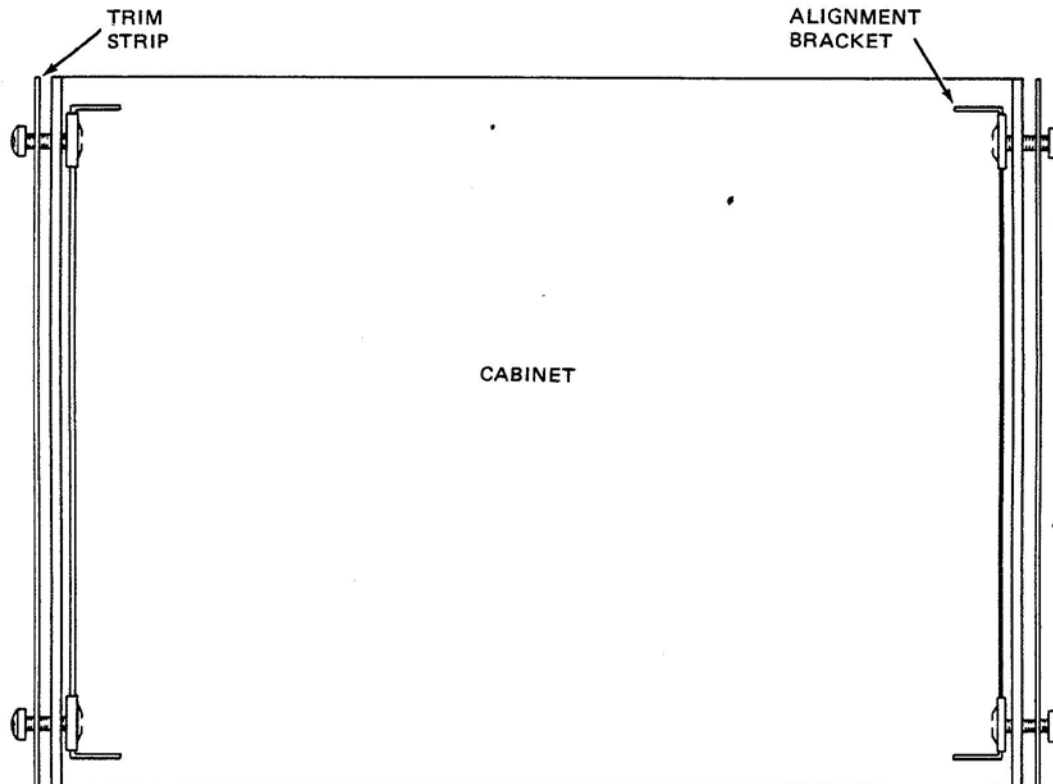

Fig. 14. Mounting the trim strips and the alignment brackets on the cabinet bottom.
(3) Next, locate two of the black Phillips head 8-32 screws. Put the screws through the two holes on one side of the black trim strip, and through the holes in the cabinet half on which you mounted the feet. Then screw them into the Tinnerman nuts on the cabinet aligning brackets as shown in Fig. 14. Do *not* tighten the screws. Do the same thing with the second cabinet trim strip and alignment bracket on the other side of the cabinet bottom
(4) Now carefully lift the power supply and lower it inside the cabinet bottom so that the alignment brackets are on the inside of the front and back panels
(5) Now take the top cabinet half and place it over the top of the power supply, aligning the holes with the holes in the black trim strips. Secure it to the lower cabinet assembly with four 8-32 black Phillips head screws
(6) Tighten all eight of the black Phillips head screws